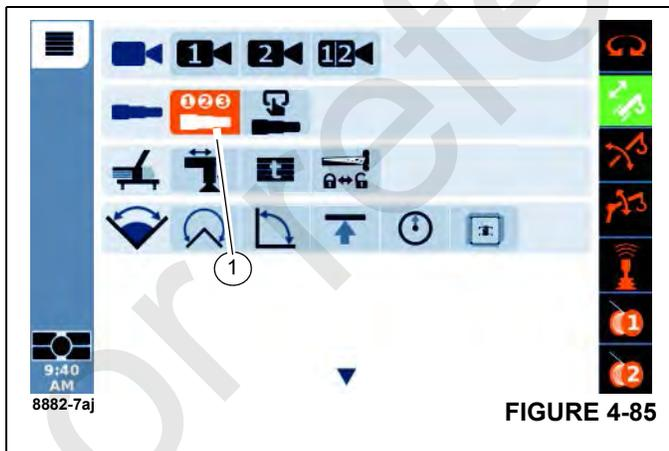

FIGURE 4-85
**NOTE:** Open the Telescoping Semi-Automation Menu (1), (Figure 4-85).